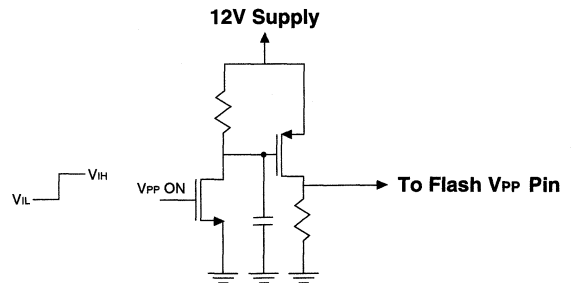

Figure 3
be adjusted, depending on the PCB transmission line characteristics, to slow the rising edge and eliminate overshoot. FETs should be selected based on R_{DS (ON)} and V_{DS (MAX)} to ensure 12V can be switched without significant voltage drop so that 12V -5% can be met. Figure 3 is an example of a circuit using a FET to switch 12V to V_{PP}.